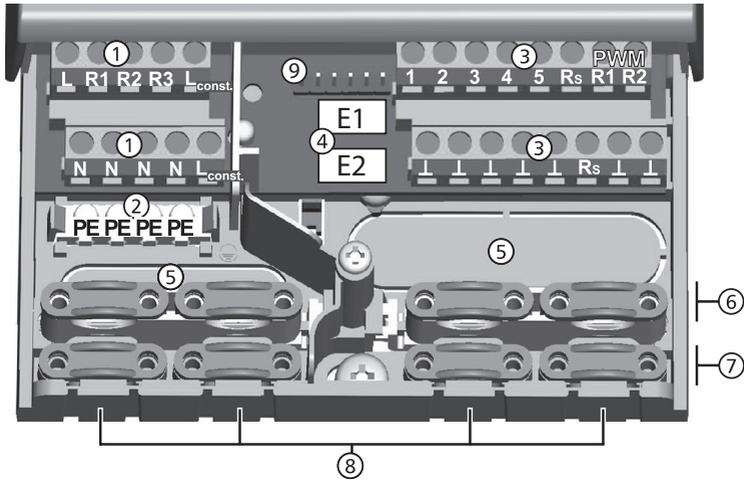

Fig 3: Terminal clamps in the lower part of the controller (terminal cover removed)
1. Break out the cable openings ⑤ (Fig. 3) using a suitable tool.
1. Cut the *required* cable openings ⑥ (Fig. 3) at the left and right using a suitable knife and break them out.